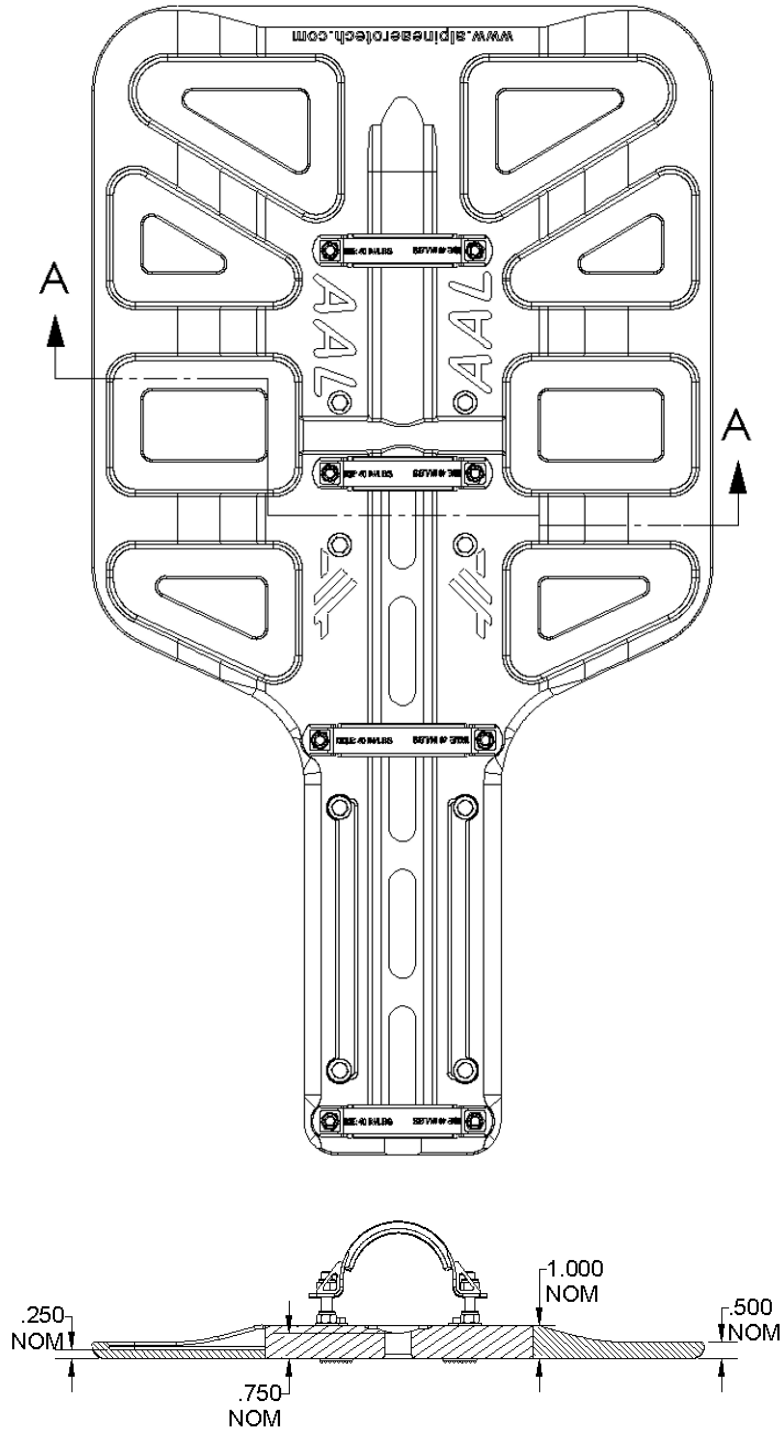

Figure 1
- v. In the shaded regions ,  of Figure 1 the Bear Paw may be worn to a maximum depth of 0.125.
- vi. In the shaded  region of Fig 1, it is acceptable to have damaged areas up to a maximum depth of 0.125 over a maximum area of 2 sq. in. Damage includes but not limited to scratches, gouges and deformed areas.
- viii. Cracks are acceptable in the shaded  portion of Fig 1 as long as they are restricted to the pockets of the bear paws, and do not exceed 0.50 long. Cracks that penetrate the stiffening ribs of the same area are unacceptable. Stop drill all cracks up to 0.50 long with $\varnothing 0.188$ drill.
- ix. Inspect items 3 & 5, Strap, Assy's for cracks and hole elongation. If cracks are detected, or holes are elongated more than 0.025, replace the Strap, Assys (Items 4 & 7) immediately.
- x. Inspect items 2 & 4 Cap, Details for wear and damage and replace as required.